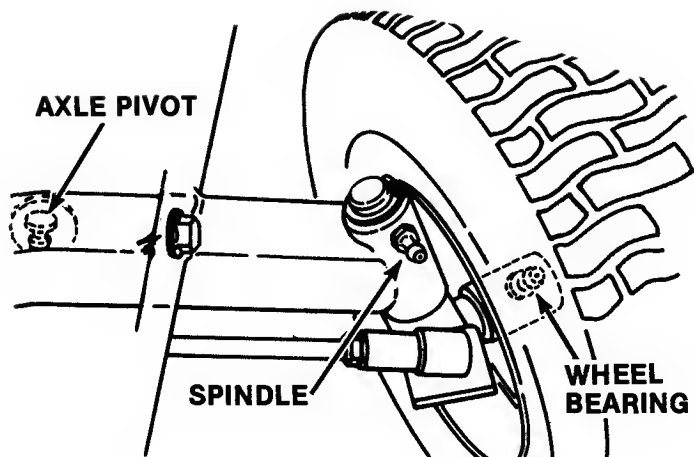

FIG. 9 - FRONT END GREASE POINTS
- **FRONT WHEEL BEARINGS:** Lubricate bearings through the fitting on hub of front wheels (figure 9)
- **FRONT AXLE PIVOT & SPINDLES:** Lubricate spindle fitting on each wheel (see figure 9) and the center pivot fitting on underside of the front axle.